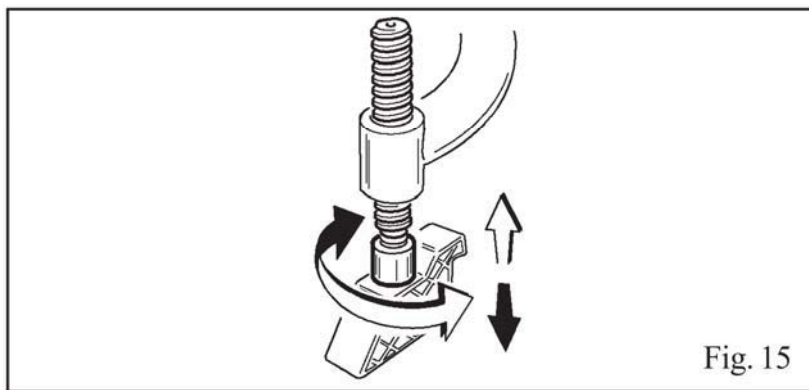

Fig. 15
If, during operation, the bead pressing tool (4) is not pressed adequately (too much or too few), it is necessary to adjust its height by the screwing the screw as shown in the figure 15.